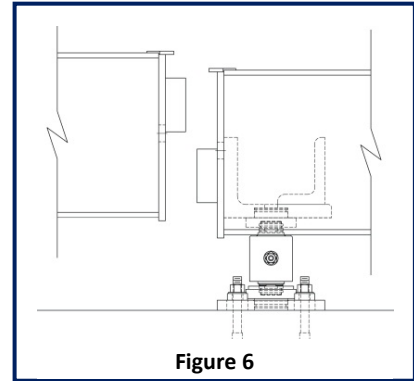

Figure 6
5. Once identified, prepare to lift. **BEFORE YOU LIFT!** Safely rig the scale module with the provided lifting points on the side of the scale. **DO NOT LIFT BY SUBFRAME or RUBRAILS**, the module and sub-frames are secured together with shipping brackets. Place the left end module next to the center module such that the load blocks of the left end module is bearing down on the load blocks of the center module. Be sure the two modules are square with each other and aligned on the center line of the scale. See Figure 6.